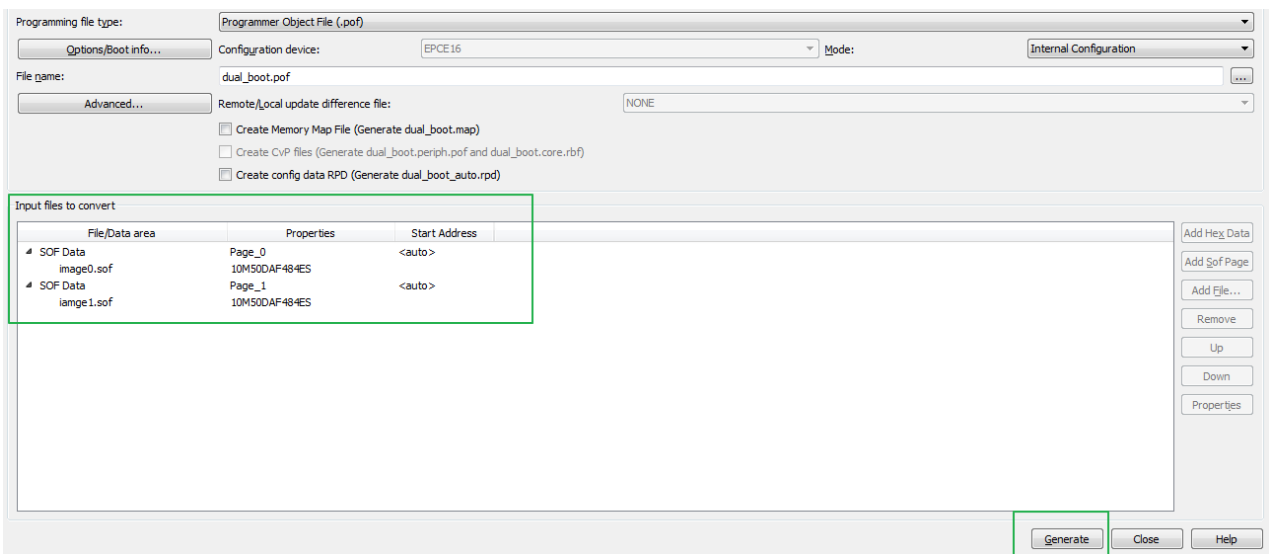

Figure 7-7 Add Sof Files
- In the Input files to convert table, click **Add File** button to choose the sof file for image0. Then press the **Add Sof Page** button and add a sof for image1 as shown in **Figure 7-7**. Click generate button to generate the object file—dual_boot.pof.